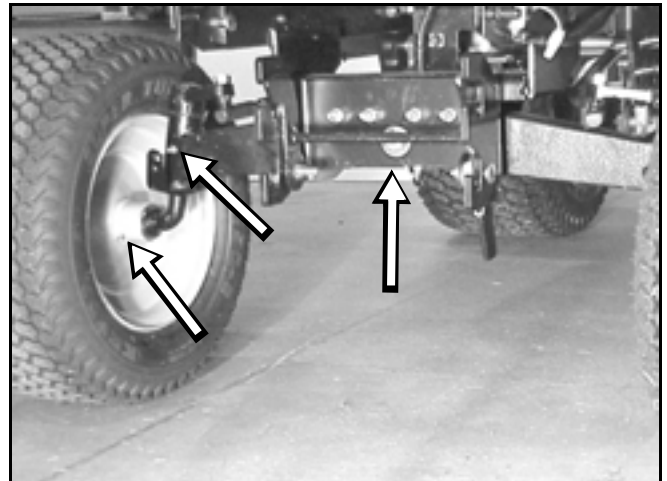

Figure 4
3. One located on the front axle pivot area (1 total) (Figure 4).